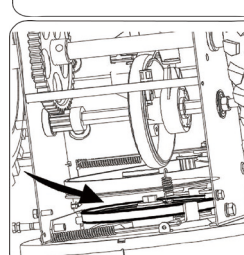

Figure 25
5. 5. Remove the belt from around the auger pulley, and slip the belt between the support bracket and the auger pulley. Reassemble auger belt by following instructions in reverse order. See Figure 25.